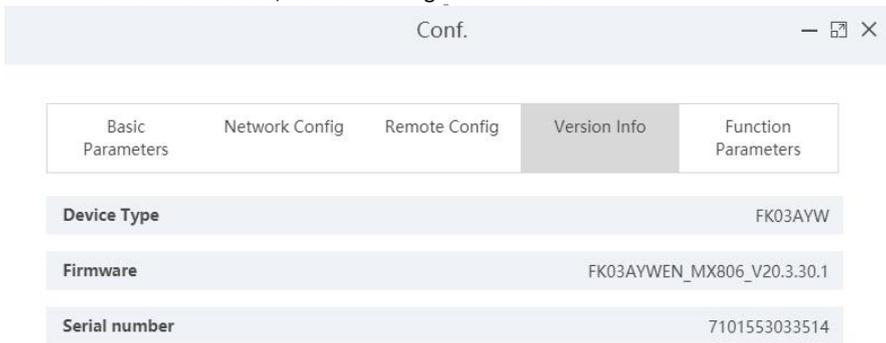

Figure 5-20
2. Here you can view the device model, firmware version and serial number and other information, as shown in Figure 5-20 below.